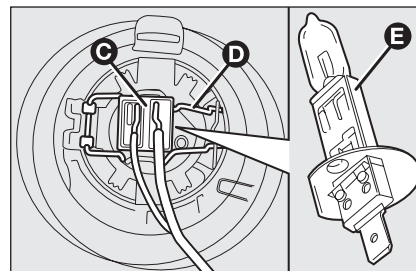

fig. 26
- disconnect the electric connector **C**-fig. 26;